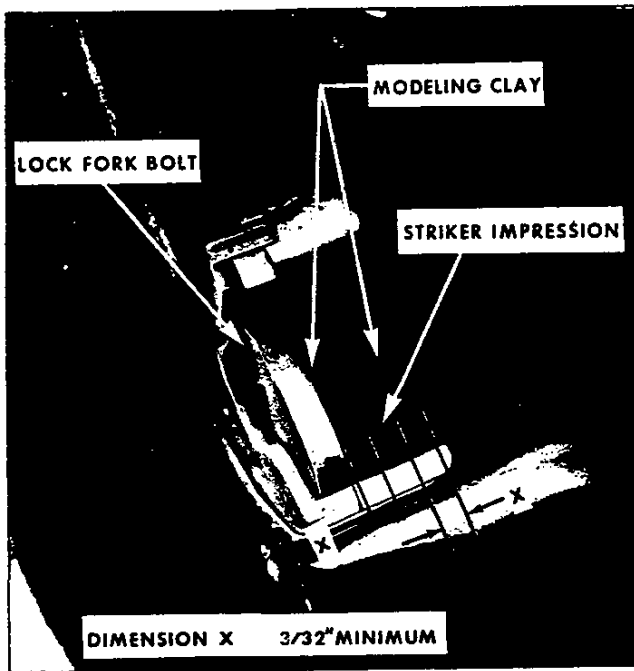

Fig. 16—Checking Adjustment of Striker
- b. Apply modeling clay or body caulking compound to lock bolt opening as shown in Figure 16.
- c. Close door only as far as necessary for striker bolt to form an impression as shown in Figure 16.
Striker head should be centered fore and aft as shown; however, some tolerances are allowed. In this alignment, it is important that minimum dimensions as outlined in Figure 16 be strictly maintained. The following spacers are available